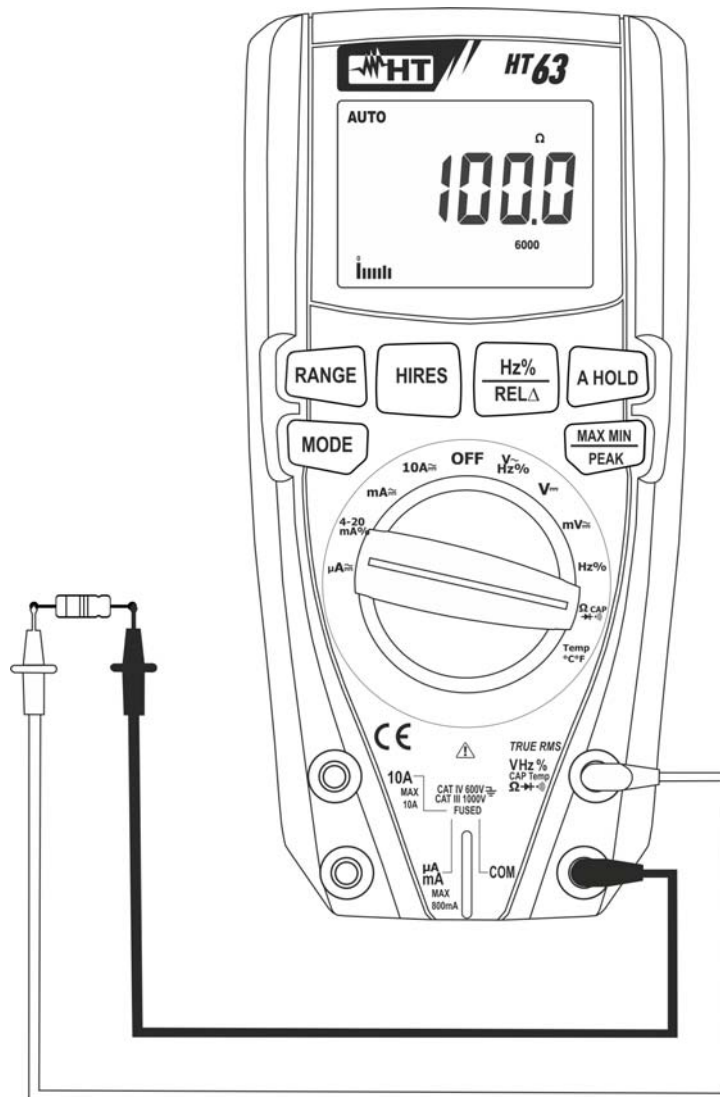

Fig. 5: Use of the instrument for Resistance measurement and Continuity test
3. Position the test leads in the desired spots of the circuit to be measured (see Fig. 5). The display shows the value of resistance.